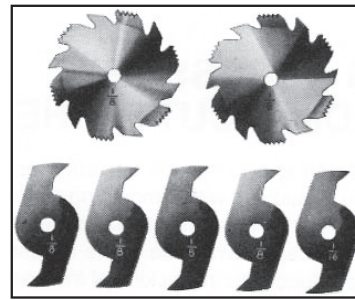
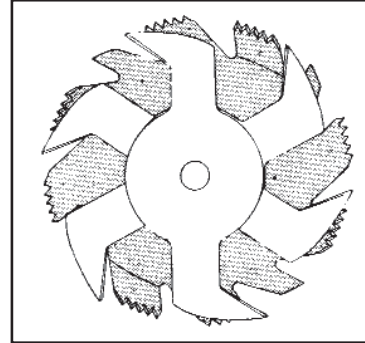
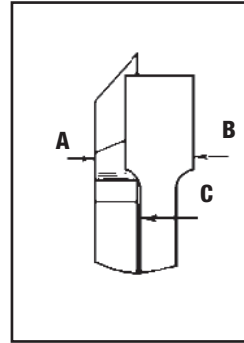

Fig. 44
Fig. 45
Fig. 46
1. Dadoing is cutting a rabbet or wide groove into the work. Most dado head sets are made up of two outside saws and four or five inside cutters, (Fig. 44). Various combinations of saws and cutters are used to cut grooves from 1/8" to 13/16" for use in shelving, making joints, tenoning, grooving, etc. The cutters are heavily swaged and must be arranged so that this heavy portion falls in the gullets of the outside saws, as shown in Fig. 45. The saw and cutter overlap is shown in Fig. 46, (A) being the outside saw, (B) an inside cutter, and (C) a paper washer or washers, used as needed to control the exact width of groove. A 1/4" groove is cut by using the two outside saws. The teeth of the saws should be positioned so that the raker on one saw is beside the cutting teeth on the other saw.